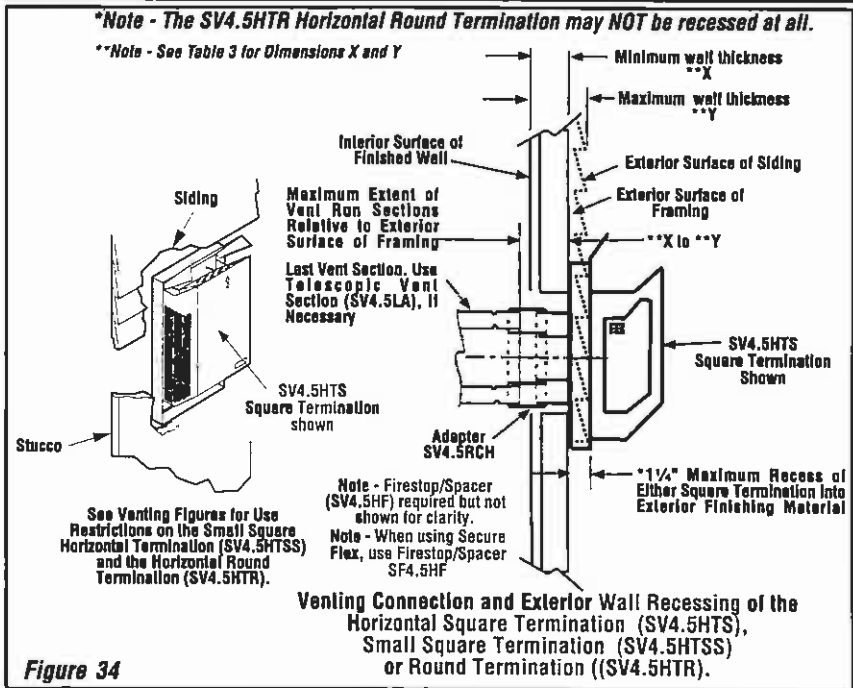
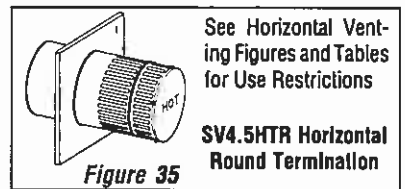

Figure 34
Figure 35
J. Assemble vent run to exterior wall - If not previously measured, locate the center of the vent at the exterior wall. Prepare an opening as described in Step B. Assemble the vent system to point where the terminus of the last section is located relative to the exterior surface to which the termination is to be attached as shown in Figure 34 and Table 4 on page 16.
2. Install the round termination (SV4.5HTR) - See Figure 35 for an illustration of the round termination. For the last step, from outside the exterior wall, slide the collars of the termination onto the adapter (the outer over the outer and the inner inside the inner) until the termination seats against the exterior wall surface to which it will be attached. Orient the housing of the termination with the arrow pointed upwards. Secure the termination to the exterior wall.
*See Figure 34.
*Note: See Figure 34 for wall thickness range reductions when using SV4.5HTS and Figure 35 when using SV4.5HTSS terminations.